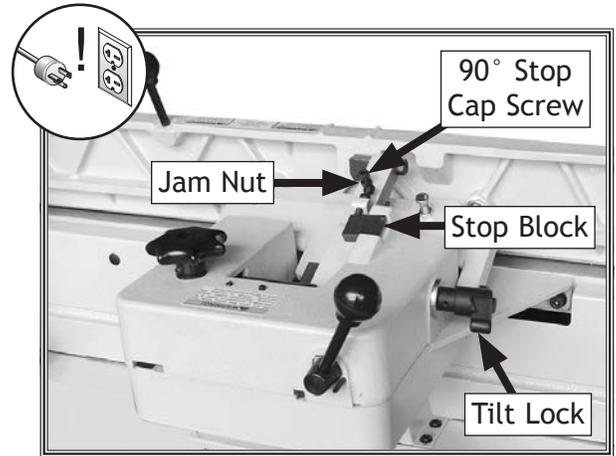

Figure 54. Fence set to 90°.
2. Loosen fence tilt lock, rotate stop block down, and position fence approximately 90° onto stop cap screw (see Figure 54).
4. Loosen jam nut on 90° stop cap screw and adjust cap screw until fence is exactly 90° while cap screw is resting on stop block (see Figure 54). Verify angle, then retighten jam nut.